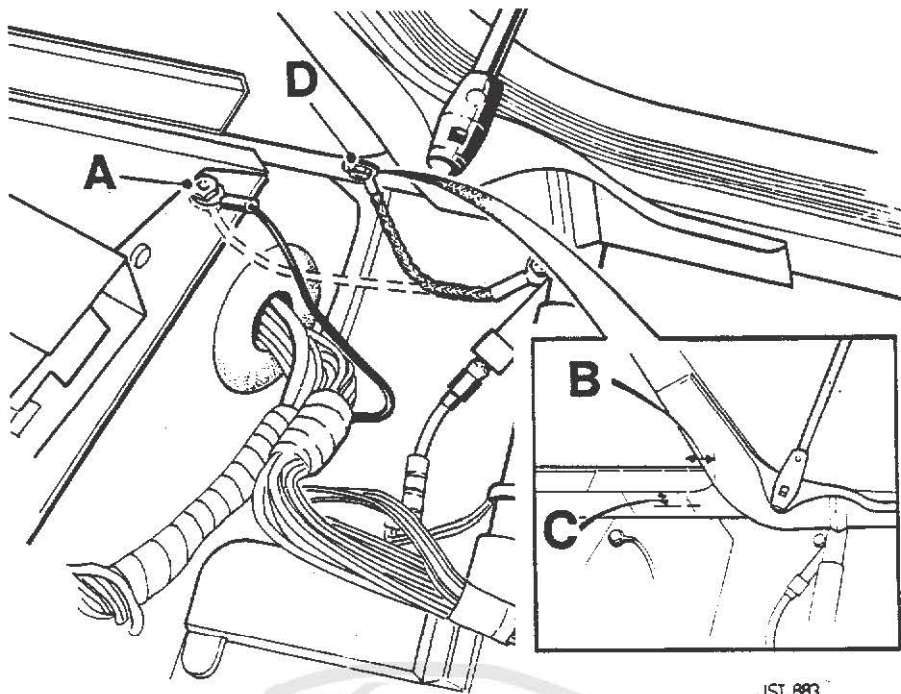

Fig 1.
- 4 Locate and remove the aerial earth lead from the relay mounting plate fixing (Fig 1 A). Relocate the side harness earth cable to relay mounting plate, refit and secure the fixing screw.
- 5 Mark out the new position for the aerial earth lead as shown in Fig 1 inset B = 10mm (0.40 in) C = 7mm (0.28 in), drill 2.5 mm (3/32 in) hole. Clean the paint from the surrounding surface to ensure a good earth connection.
- 6 Position the aerial mast earth lead to the new fixing point ensuring that the shortest length possible can be fitted without putting any strain on the lead (Fig 1 D). Mark the earth braid ensuring the new length will be approximately 76mm (3.0 in) when measured from the centre of the eyelets.